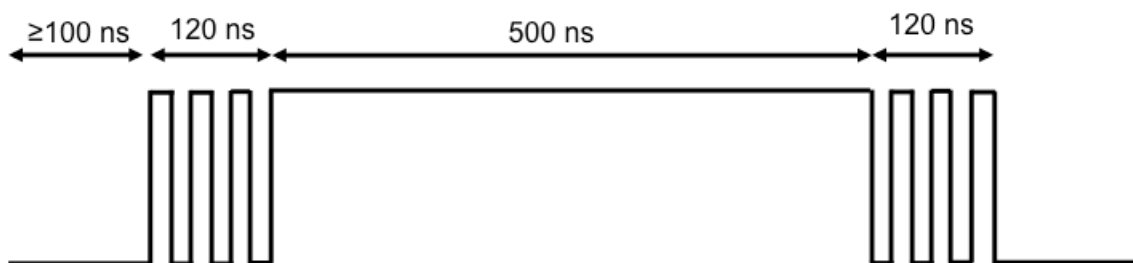

Fig. 5: Timing waveform of the input signal.
- A. clk, B. rst, C. input shown in Fig. 5.
- The input signal should look as shown in Fig. 5, and should have all changes happening on the falling edges of the clock.